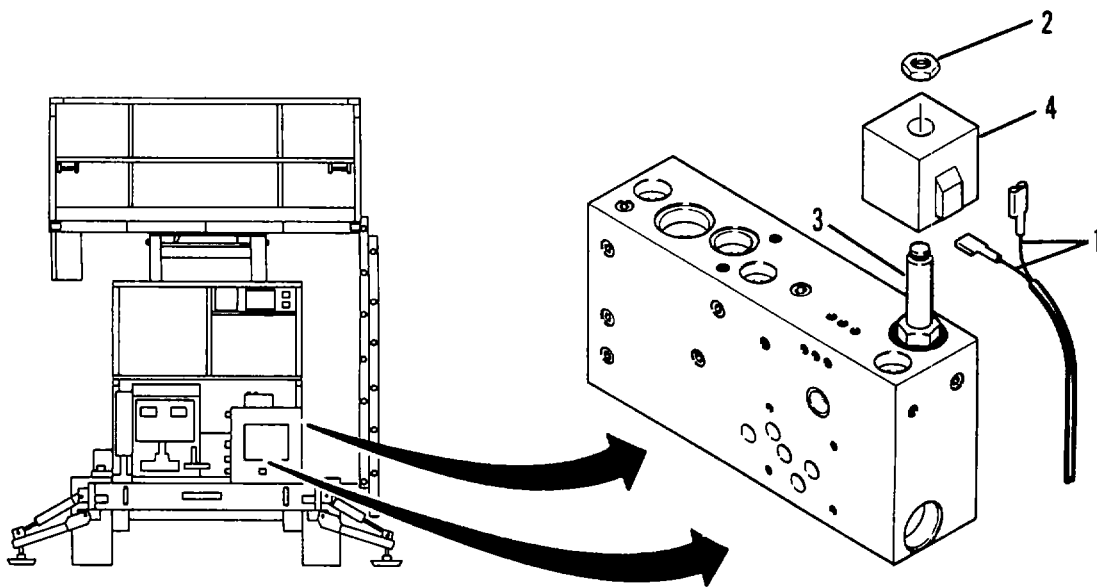

Figure 3-33. Solenoid Valve Repair.
- (1) Tag and disconnect wires (1, Figure 3-33).